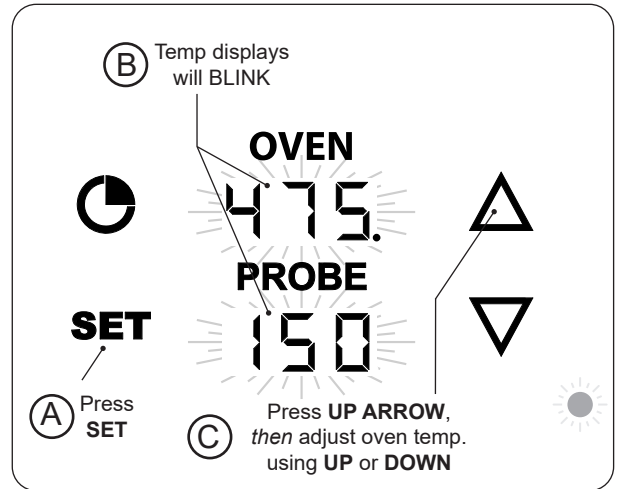

Fig. 38-1 Set oven temp.
1. With the thermometer/thermostat **on**, press the **SET** button once. The oven and probe displays will blink. (While blinking, either area can be selected to enter their settings.) See Fig. 38-1, A and B.
2. Press the **UP ARROW** to select the oven temp settings, then use the up or down arrows to set the desired temp. (Fig. 38-1, C).